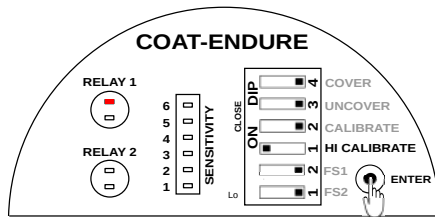

Figure 14: Setting Calibration
- Press and hold ENTER key, the STATUS LED for RELAY 1 will glow in RED color as shown in Figure 14.